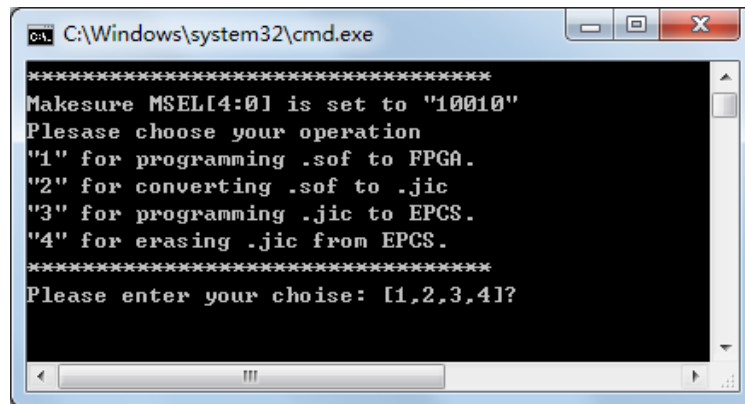

Figure 5-1 Command line of the batch file to program the FPGA and EPCS device
- For the ease of execution, a demo_batch folder is provided in the project. It is able to not only load the bit stream into the FPGA in command line, but also program or erase .jic file to the EPCS by executing the “test.bat” file shown in **Figure 5-1**